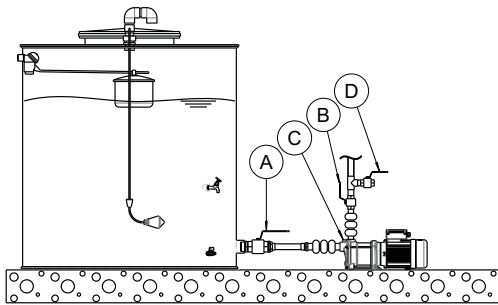
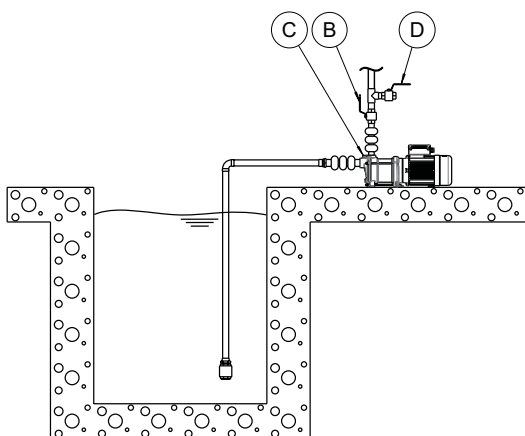

Figure 8: Example: installation of a pump under pressure operation
Figure 9: Example: installation of a pump in suction-operation
- Close the discharge shut-off valve (B);
- Close the suction shut-off valve (A);
- Unscrew the fill plug (C);
- Gradually open the suction shut-off valve (A) until the liquid flows from the fill plug (C);
- Close the fill plug (C);
- Open shut-off valve (B);
- Vent the pump on discharge side for example via a venting valve (D) on discharge side (see Figure 8: Example: installation of a pump under pressure operation);
- Open the discharge shut-off valve (B);
- Remove the fill plug (C);
- Put a funnel into the port (C) and completely fill the pump with the liquid to be pumped;
- Vent the pump on discharge side for example via a venting valve (D) on discharge side (see Figure 9: Example: installation of a pump in suction-operation);
- Close the fill plug (C).
- Gradually open the discharge shut-off valve (B);